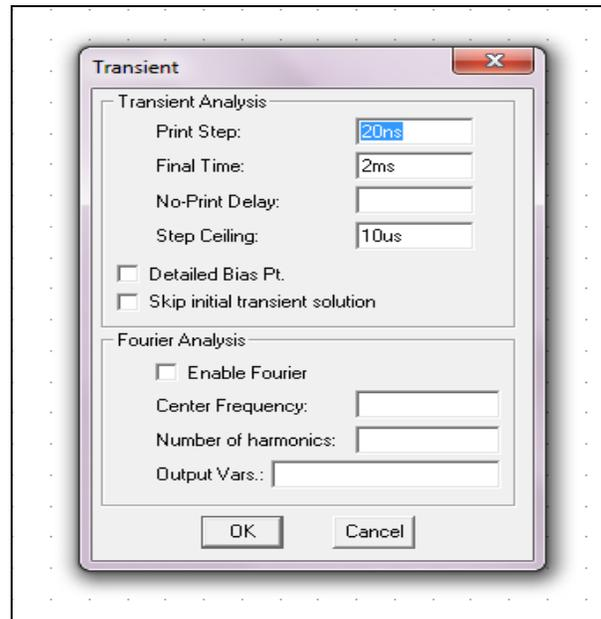

Figure 3.2
- After the circuit is drawn and the source is specified with its attributes, we need to add some specifications for the transient analysis. Click **Setup Analysis** and click the **Transient** box to open **Transient window** and set the transient as figure 3.2.